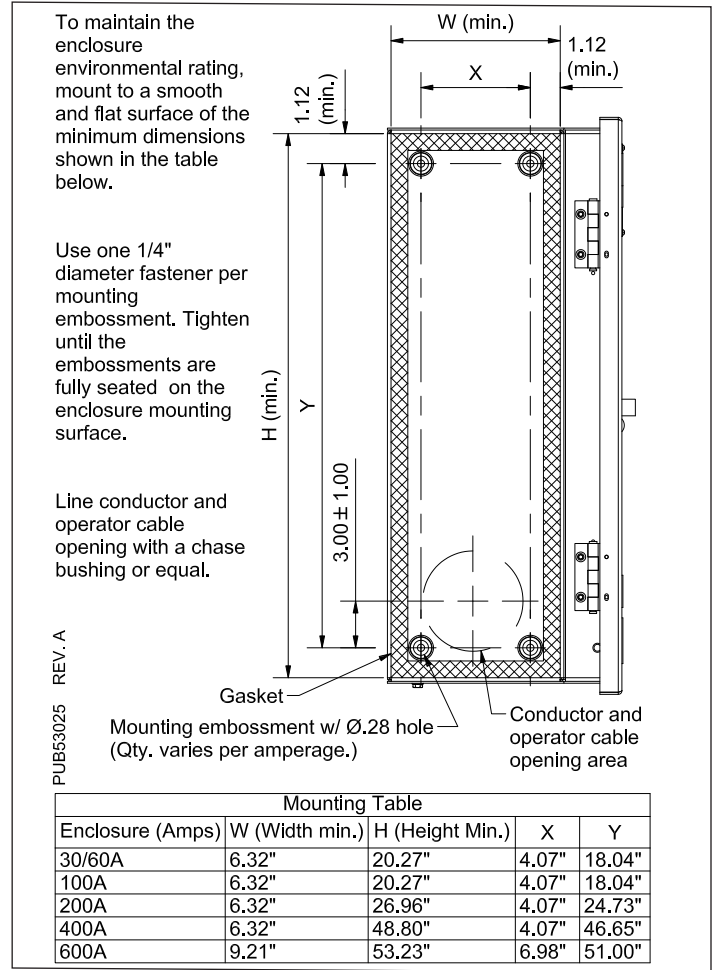

Figure 2. Enclosure Mounting.
3. Lift and align OLI enclosure to control panel enclosure. Install one ¼" diameter fastener (supplied by others) per mounting hole. Follow the instructions detailed in Figure 2. Tightening the fasteners will compress the gasket material on the side wall of the OLI between the two enclosures.
Note: A copy of Figure 2 (PUB53025) is located on the inside cover of the OLI Switch.
4. Using appropriate tooling (either punch and die knockout, or hole saw) create an opening in which the load side power conductors, and the flex operator cable, can pass through both enclosures. Recommended area for locating the opening is shown on Figure 2. The opening is to be lined with a chase bushing or equal (supplied by others), per bushing manufacturer's instructions.